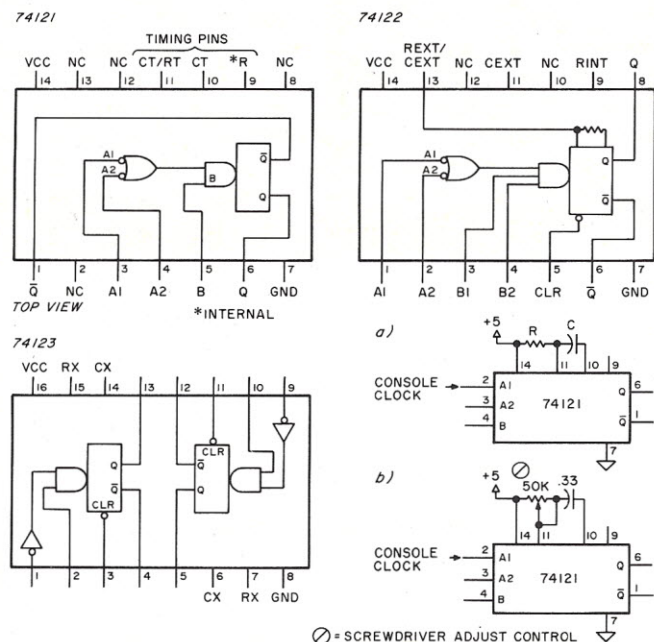

Fig. 1. Circuit diagrams for Experiments 36 and 37.
Solution: Set up the circuit in Fig. 1a on the console breadboard. The chip used for this experiment may be a 74121, 74122 or 74123, all members of a family of monostable multivibrators. Pin-outs for all three chips are given in Fig. 1.
The value of the capacitance in the timing circuit can also be changed to change the width of the output pulses. Leave the variable resistor at one setting and try substituting different values for the timing capacitor (C) in Fig. 1. Increasing either resistance or capacitance of the timing components will widen the pulses out of the one-shot.
Procedure: Change the timing resistor (R) of Fig. 1